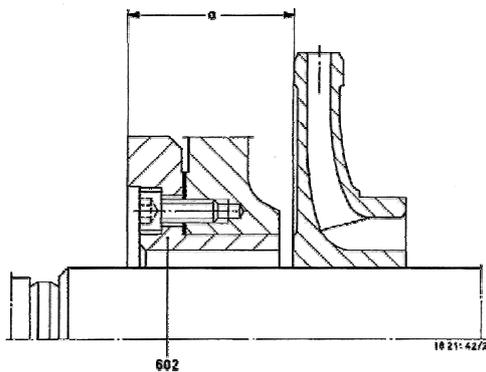

Figure 39 – Rotor adjustment, distance “a”
Measure the distance “a” from the contact face of the balance counter disc (602) to the final stage impeller hub (Fig. 39).